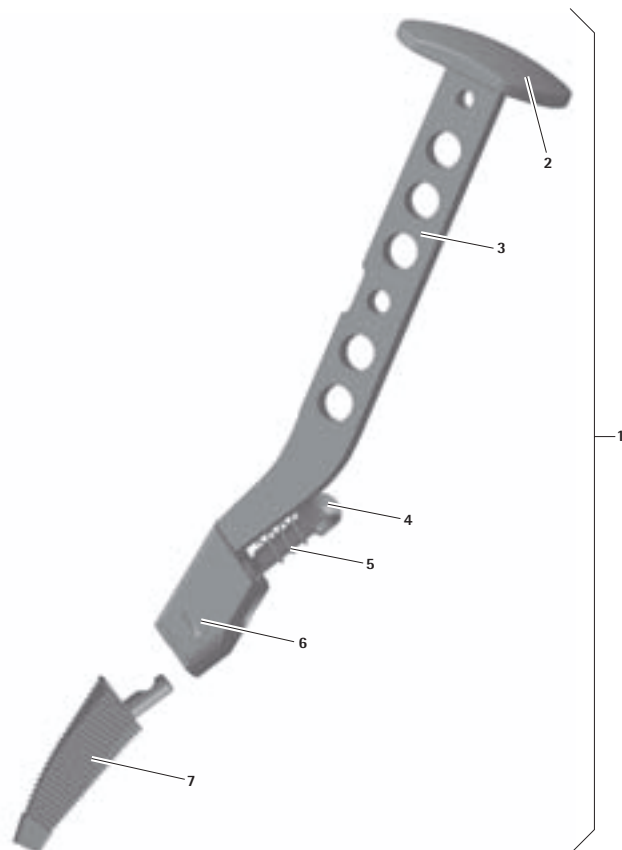

Fig. 1
- Slide rasp 7 in the handle part 3, see Fig. 1. making certain that the notch in the rasp connector points towards the push button.